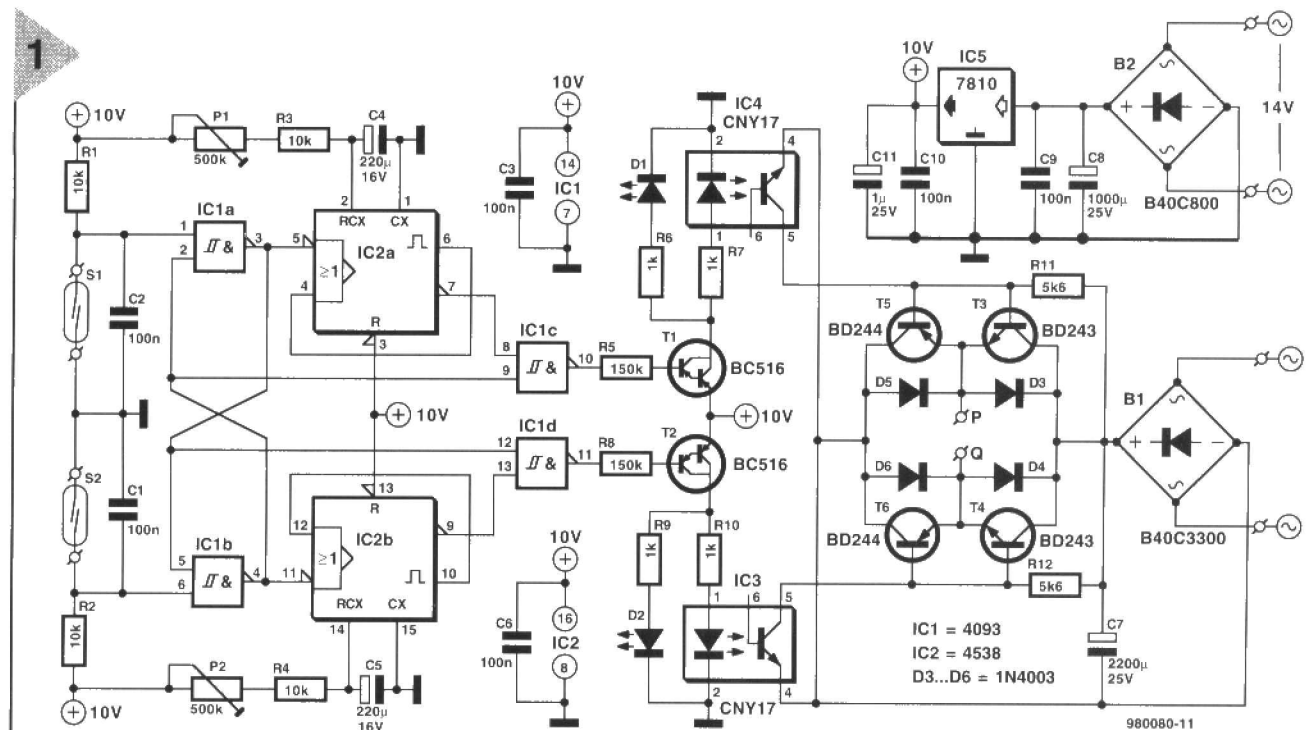

Figure 1. Circuit diagram of the shuttle track control.
To understand the function of the shuttle service circuit, imagine a train travelling from A to B. The train can move only when neither of timers IC_{2a} and IC_{2b} is set (see Figure 1). This is always so when the train is at a standstill at station A or B. Pin 3 of the bistable (flip-flop) formed by IC_{1a} and IC_{1b} is then logic low (0), whereas pin 4 is logic high (1). Pins 6 and 10 of IC_2 are also low, while pins 7 and 9 of IC_2 are high. The inputs of NAND gate IC_1 are high, but its output is low. This means that T_1 conducts whereupon the LED in optoisolator IC_4 lights. Power transistors T_4 and T_5 conduct and link the drive voltage to the rail track. The train is then able to leave station A and travel to station B.